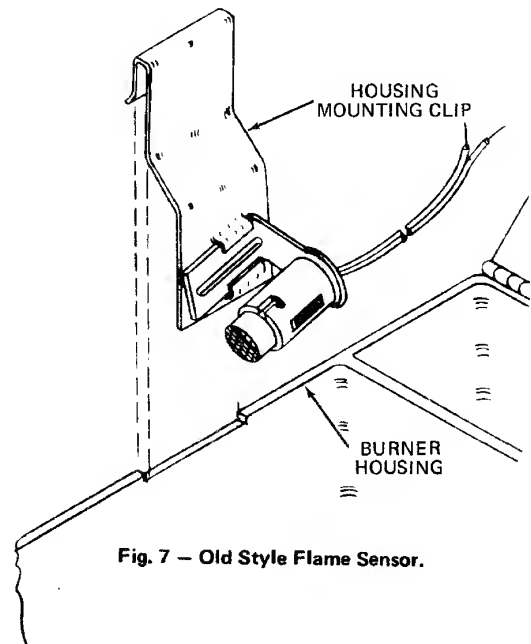

Fig. 7 — Old Style Flame Sensor.
C. Flame Sensor Mounted on Side of Burner Housing (Fig. 7)
1. Remove Housing Mounting Clip from side of burner housing as shown in Fig. 7. Then remove and discard old Flame Sensor from Housing Mounting Clip.